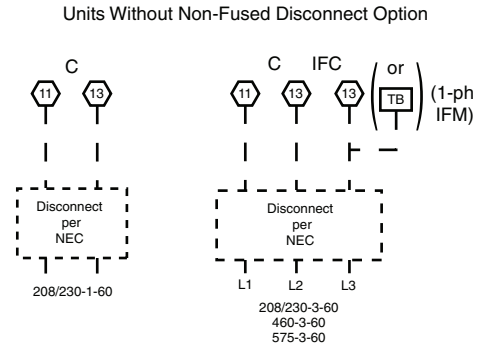
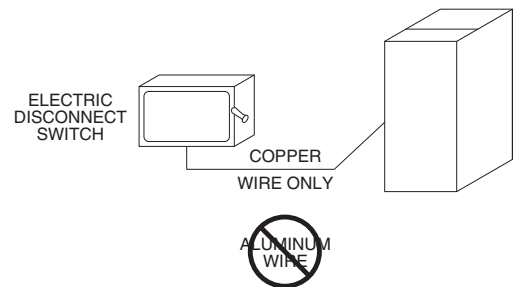

Fig. 21 — Power Wiring Connections
Fig. 22 — Disconnect Switch and Unit
Refer to Fig. 27 for power transformer connections and the discussion on connecting the convenience outlet on page 16. Field power wires are connected to the unit at line-side pressure lugs on compressor contactor C and indoor fan contactor IFC (see wiring diagram label for control box component arrangement) or at factory-installed option non-fused disconnect switch. Max wire size is #2 AWG (copper only, see Fig. 22). See Fig. 21 and unit label diagram for field power wiring connections.
The factory-installed option non-fused disconnect (NFD) switch is located in a weatherproof enclosure located under the main control box. The manual switch handle and shaft are shipped in the disconnect enclosure. Assemble the shaft and handle to the switch at this point. Discard the factory test leads (see Fig. 21).
All field wiring must comply with NEC and all local codes. Size wire based on MCA (Minimum Circuit Amps) on the unit informative plate. See Fig. 21 and the unit label diagram for power wiring connections to the unit power terminal blocks and equipment ground. Maximum wire size is #2 ga AWG (copper only) per pole on contactors.
2. Install power lines to terminal connections as shown in Fig. 21.